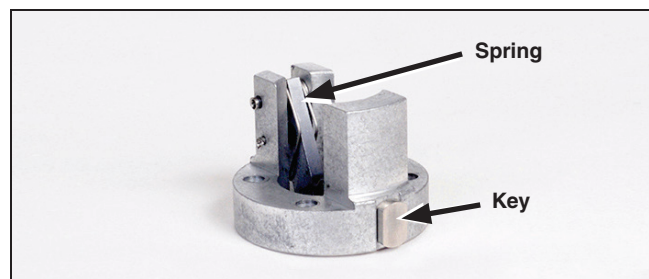

Figure 17. Inspect the trigger assembly.
- STEP 14.** Inspect the trigger assembly. Make sure the spring is working and the key is still secure and in place. Look for evidence of excessive wear, a broken spring, or burning or pitting of any part of the assembly. Replace the entire trigger assembly if necessary. See Figure 17.